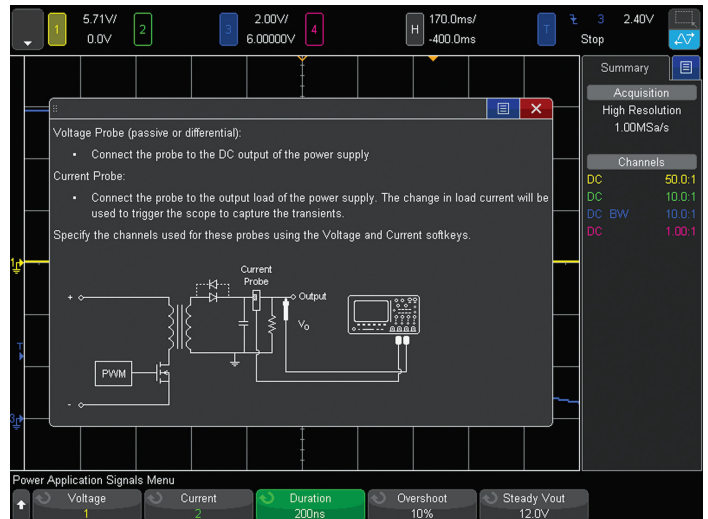

Figure 33: Transient Response connections diagram in the Signals menu
5. Connect the current probe between the scope's channel-2 input to the output current signal on your device under test as illustrated in the on-screen connections diagram shown in Figure 33. If using Keysight's SMPS training kit, connect to the J3 current loop in the direction indicated on the demo board. Note that the current-direction arrow on the current probe should be facing down towards your bench.